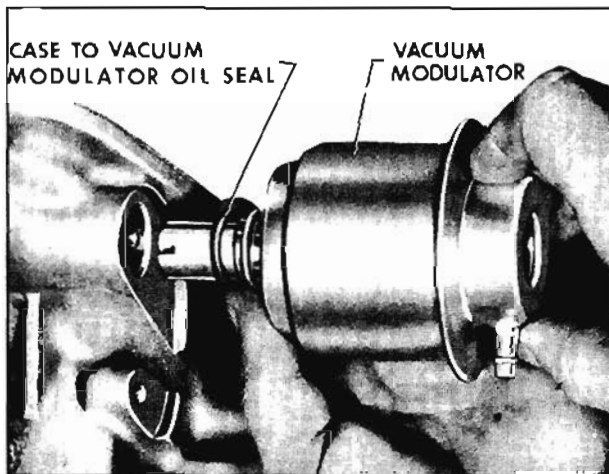

Fig. 6-478 Installing Vacuum Modulator
2. Install case to vacuum modulator oil seal. Install modulator into case. (Fig. 6-478)